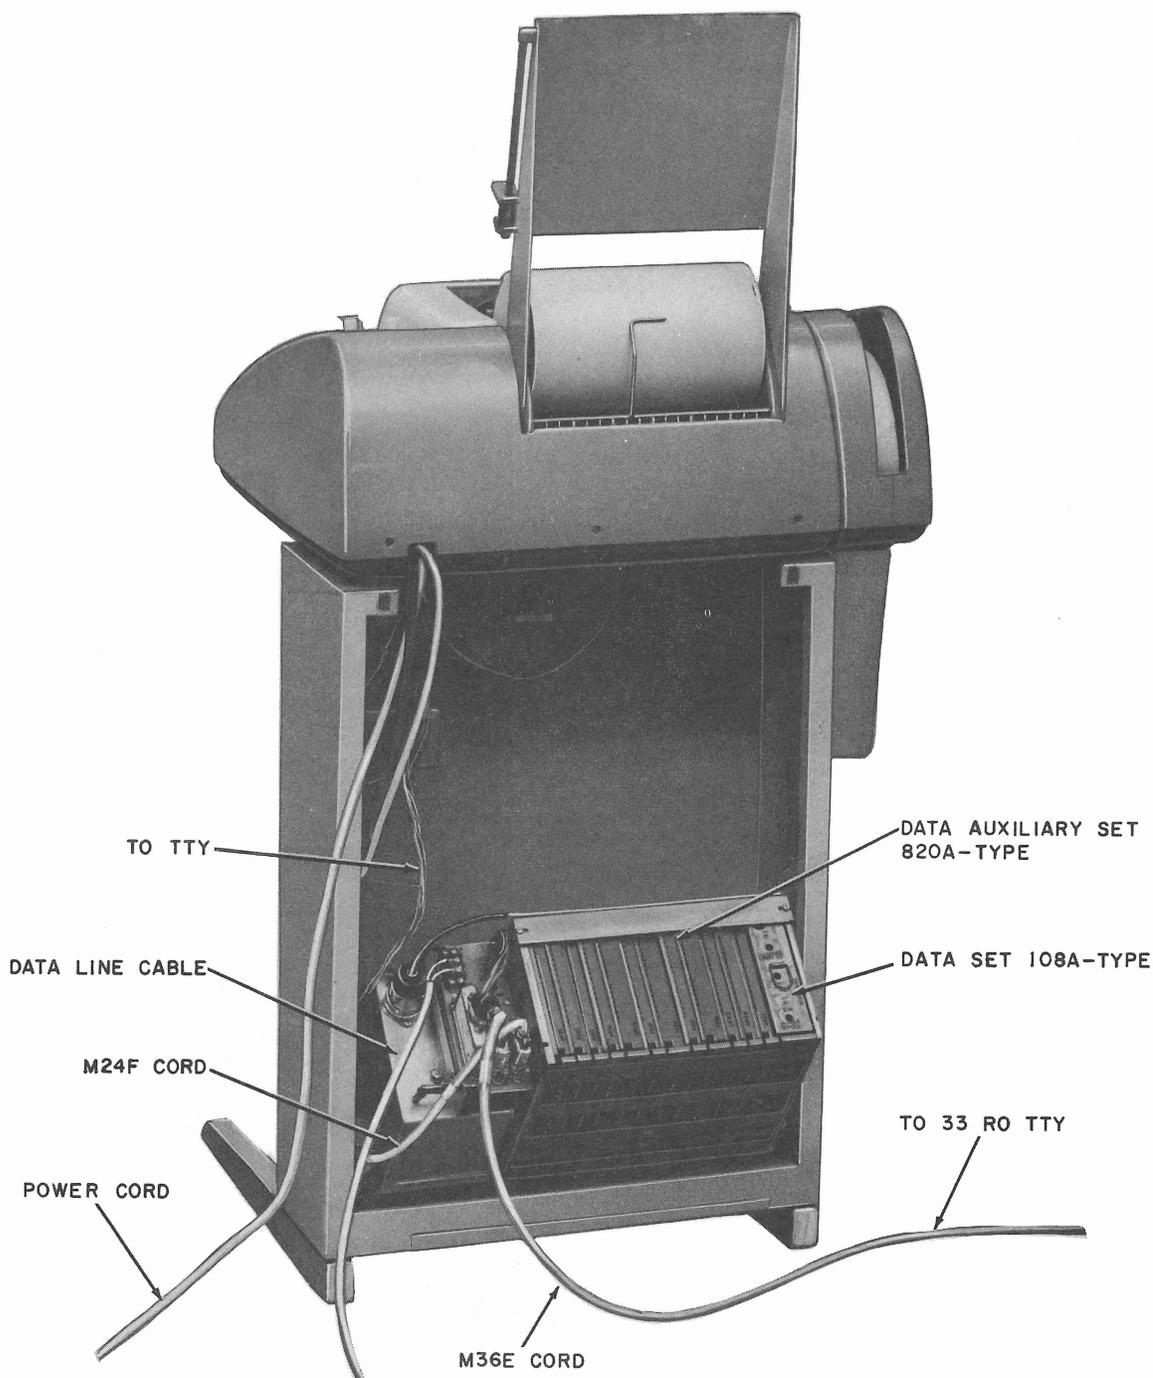

Fig. 3 — Model 33 ASR TTY, Rear View With Data Auxiliary Set 820A2 in the Maintenance Position
(2) With both hands placed on the rear of the data auxiliary set, gently pull the top towards the rear of the station as shown in Fig. 3.